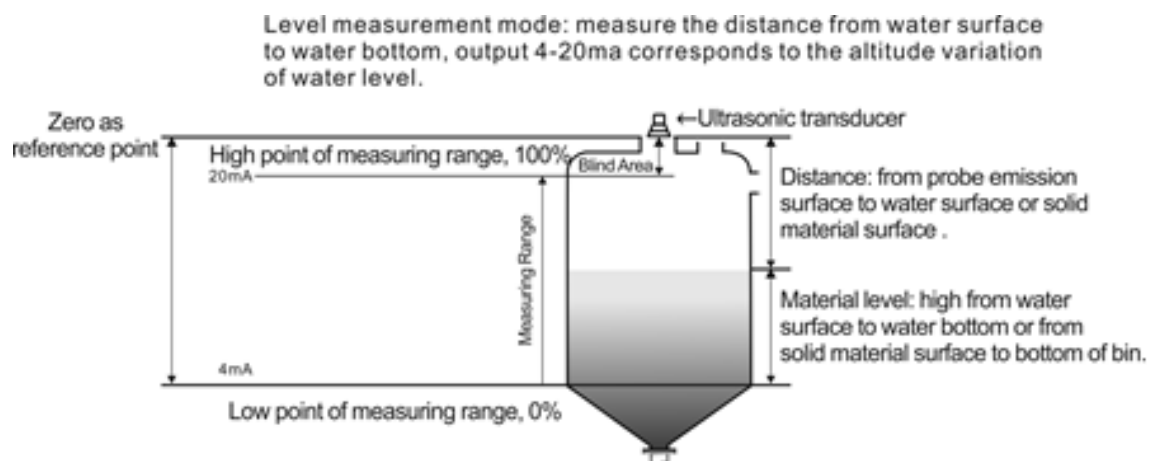

Fig. 1.2 Diagram of Material Measurement Level
② Under material level measuring mode, the positions of reference zero point, maximum of measuring range and minimum of measuring range are as shown in Fig. 1.2.